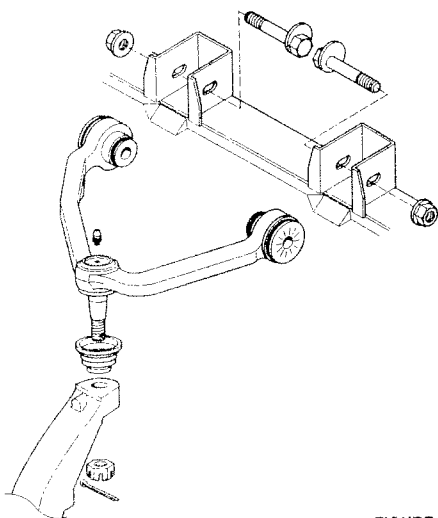

FIGURE 1
2. Mark the position of the alignment cams on the upper control arm inner pivot position (SEE FIGURE 1).